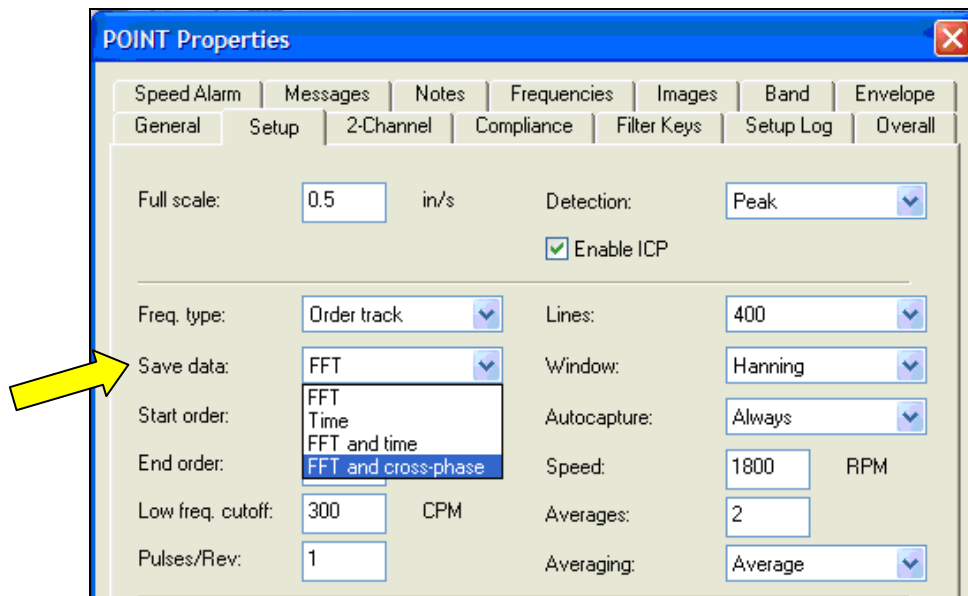

Figure 3. Set as FFT and cross-phase
- Next, change the **Save data** field to **FFT and cross-phase**. [Figure 3]